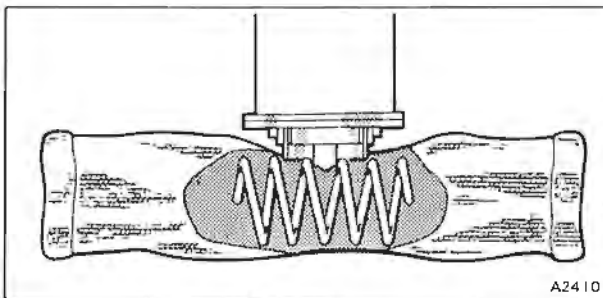

Fig. C2-8 Pre-pump filter
- a. Ensure that the shape of the pre-pump filter is not deformed in any way (i.e. not collapsed and that the support spring is fitted). Refer to figure C2-8.